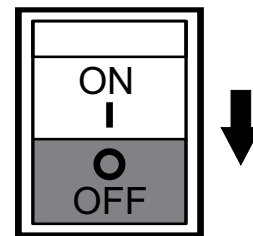

Figure 29. Operation Switch (Emergency)
1. Place operation switch (Figure 29) in the **OFF** position.